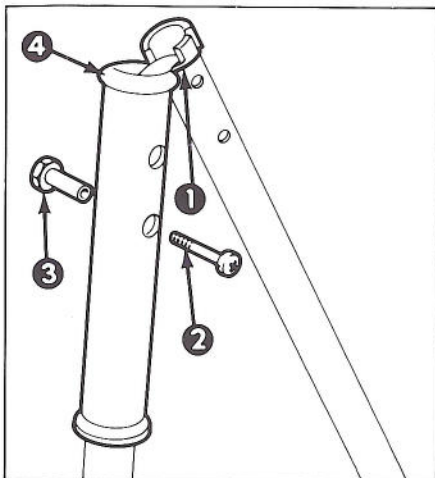

Figure 1
1. Remove and discard the grommet from inside the upper handle (Fig.1).
2. Remove the handle screws and plastic handle nuts from the center handle grip (Fig. 1).